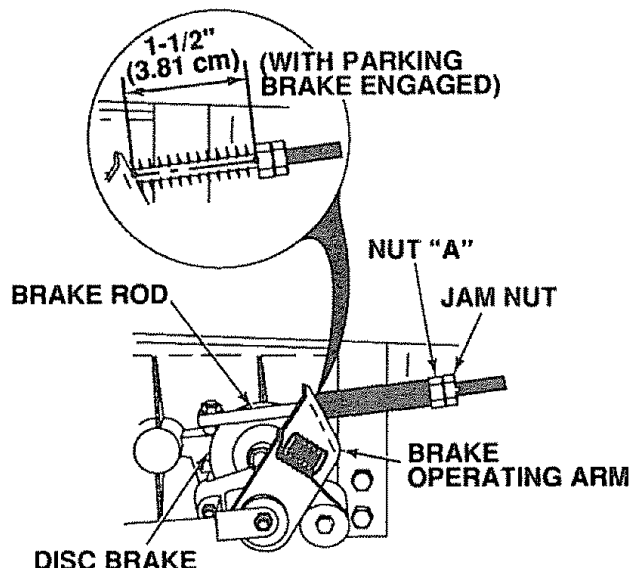

FIGURE 10
- Lift up to place parking brake in "ENGAGED" position (Fig. 10) and release pressure from clutch/brake. Pedal should remain in "BRAKE" position.
This tractor is equipped with an adjustable brake system mounted on the right side of the transaxle (Fig. 10).
- If distance is other than 1-1/2" (3.81 cm), loosen jam nut (Fig. 10) and turn nut until distance becomes 1-1/2" (3.81 cm). Retighten jam nut against nut "A".